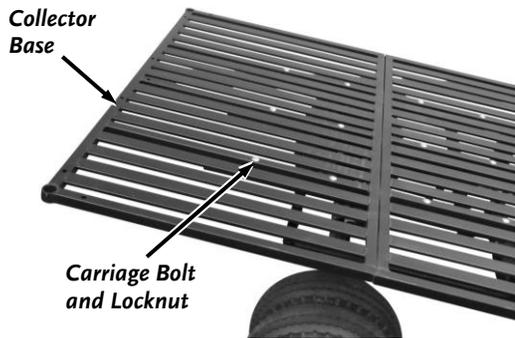

Figure 11
1. Tip the Rear Frame/Collector Base Assembly over onto the Wheels (**Figure 11**).